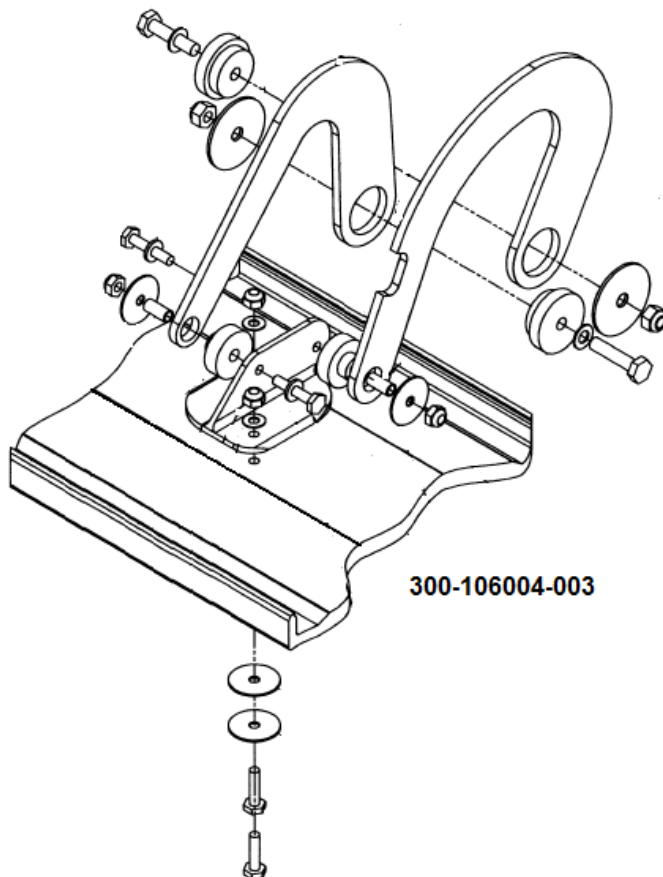

Figure 2: Control Arm Details – (300-106004-003)
- a. For the 300-106004-003 style control arms, remove the two (2) bolts, washers and nuts securing the control arm to the tank attachment bracket (Figure 2).
- b. For the 300-106004-003 (Figure 2) secure with bolts included in kit and secure with self locking nuts